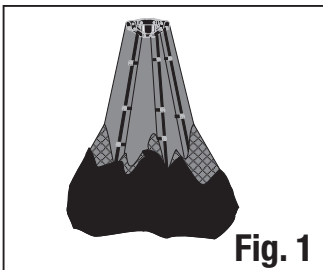

Fig. 1
- Stand the tent upright with the hub assembly at the top. (Fig. 1)